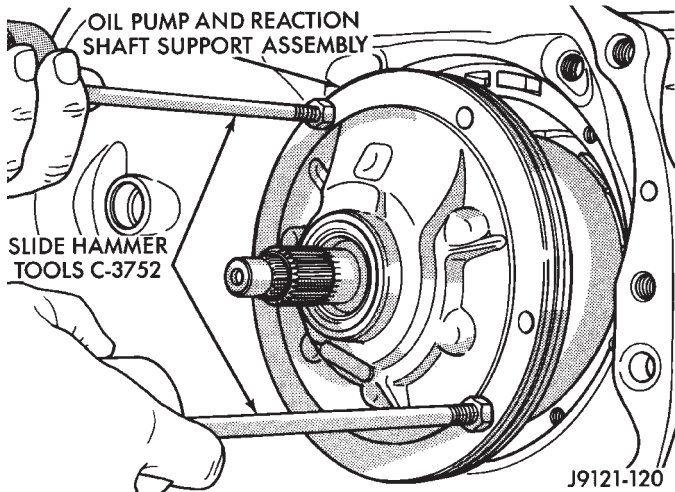

Fig. 10 Removing Oil Pump/Reaction Shaft Support
(14) Loosen front band adjusting screw locknut 4-5 turns. Then tighten band adjusting screw until band is tight around front clutch retainer. This prevents front/rear clutches from coming out with pump and possibly damaging clutch or pump components.
- (15) Remove oil pump bolts.
- (16) Thread bolts of Slide Hammer Tools C-3752 into threaded holes in pump body flange (Fig. 10).
- (17) Bump slide hammer weights outward to remove pump and reaction shaft support assembly from case (Fig. 10).